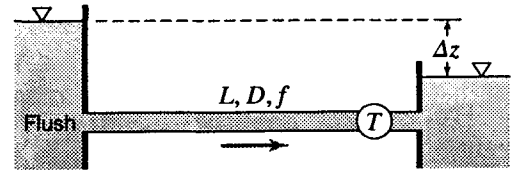

Figure P8.73
8.74 In a testing laboratory, a certain turbine has been found to discharge 285 L/s under a head h_t of 13.5 m. In the field, it is to be installed near the end of a pipe 110 m long (Fig. P8.73). The supply line (flush entrance) and discharge line (submerged exit) will both have diameters of 250 mm with $f = 0.024$. The total fall from the surface of the water at intake to the surface of the tailwater will be 15.5 m. What will be the head on the turbine, the rate of discharge, and the power delivered to the flow? Note that for turbines, $Q \propto \sqrt{h_t}$ (from Eq. 16.17).